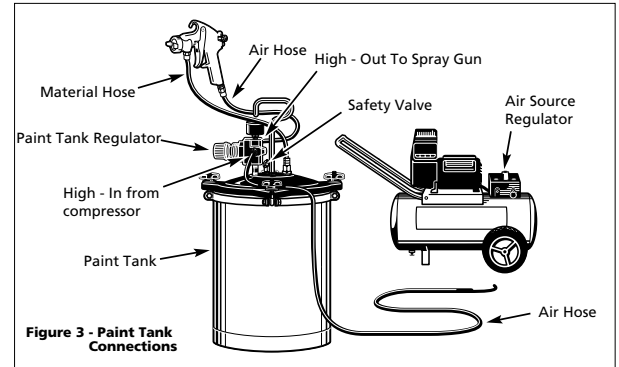

Figure 3 - Paint Tank Connections
The proper connections to make when using a pressurized paint tank are as illustrated in Figure 3. Refer to the instructions supplied with the paint tank for connections and usage. **DO NOT USE A PAINT TANK WITHOUT READING THOSE INSTRUCTIONS.**
6. Pressure/siphon valve knob must be tightened clockwise (S direction) when using a pressurized paint tank connected as shown in Figure 3. This will prevent pressurized air from escaping out of the canister pressure valve port when the canister is not used.